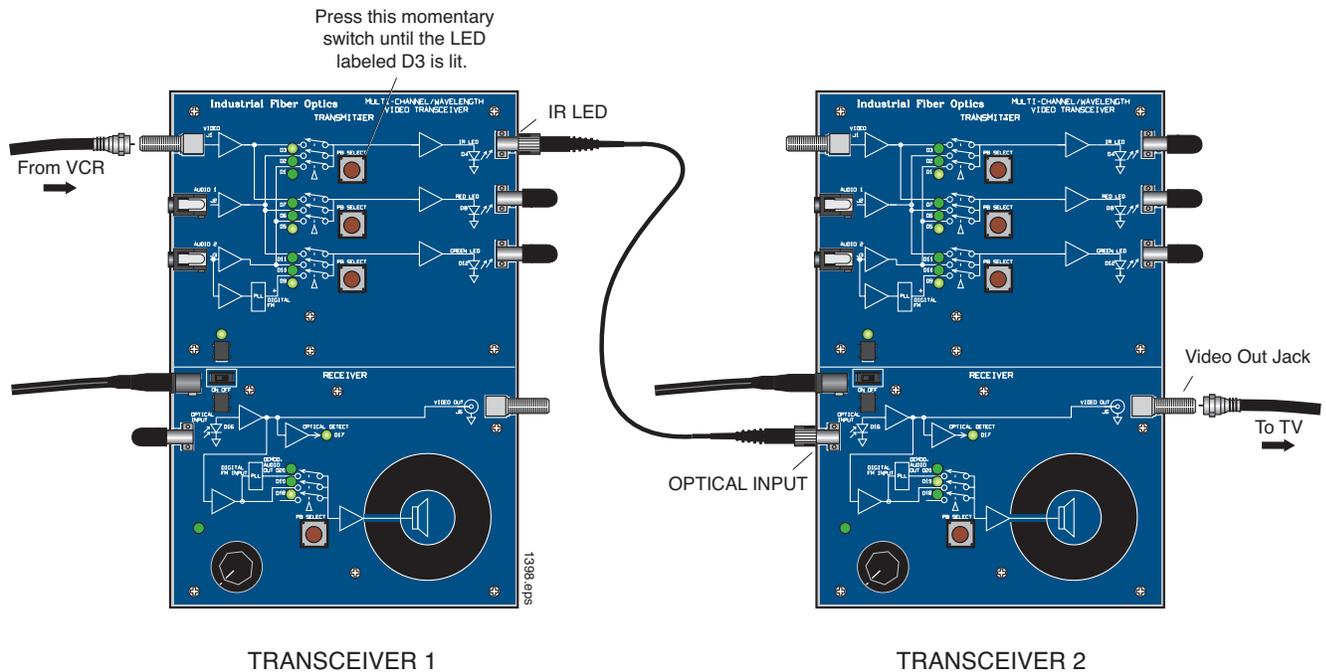

Figure 11. Detailed view of electrical and optical connectors on the two transceivers for demonstrating video transmission over optical fiber.
2. Connect the coaxial cable attached to the video source to the Video input jack on Transceiver 1. See Figure 11.